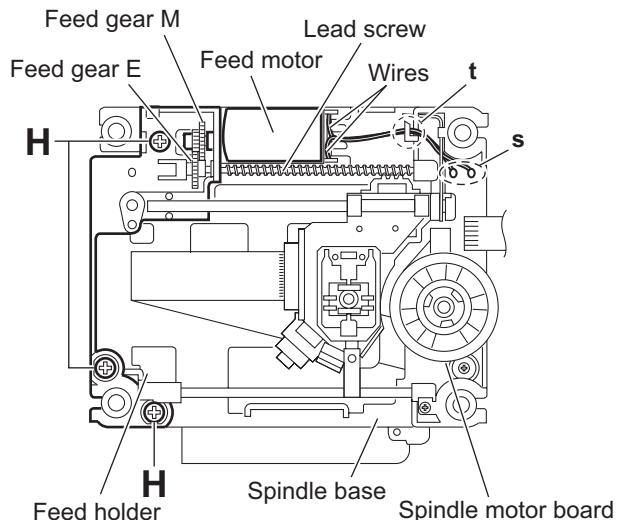

Fig.11
- (4) Remove the wires from the soldered section **s** on the spindle motor board. (See Fig.11.)
When attaching the feed motor, pass the wire through the section **t** on the spindle base. (See Fig.11.)
- (5) Remove the feed holder, feed motor, lead screw, feed gear E and feed gear M at the same time after removing the three screws **H** attaching the feed holder. (See Fig.11.)
(See Figs.11 and 13)
- (1) From the top side of the traverse mechanism assembly, remove the wires from the soldered section **s** on the spindle motor board. (See Fig.11.)